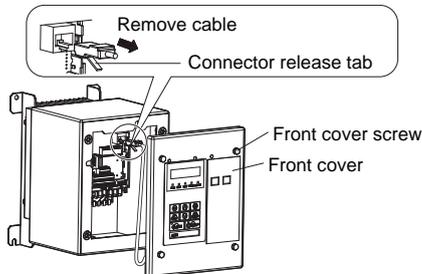

Figure 8 Removing the LED Operator Cable
1. Insert the LED operator cable into the correct port on the drive. Refer to the Figure 8.